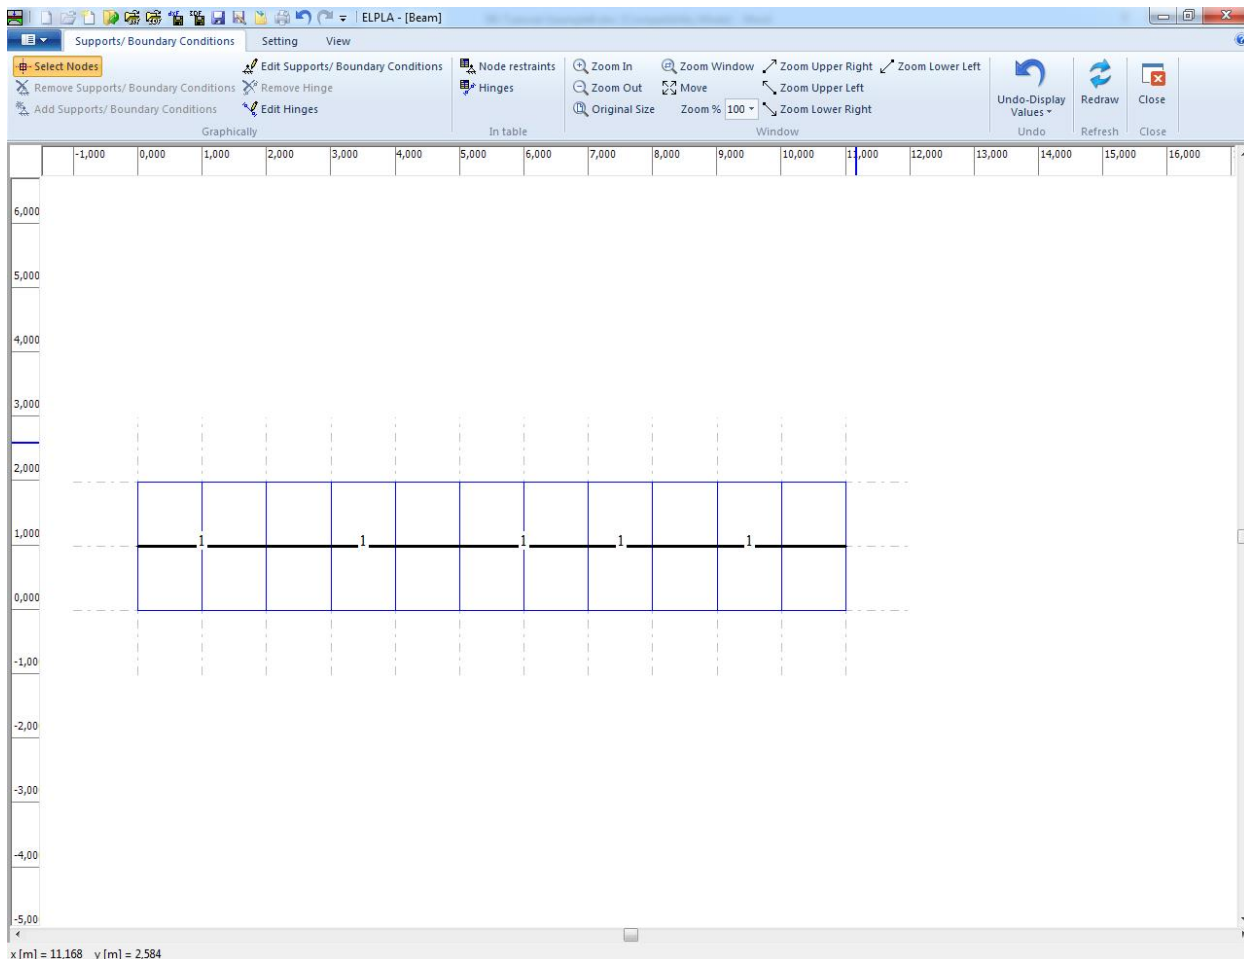
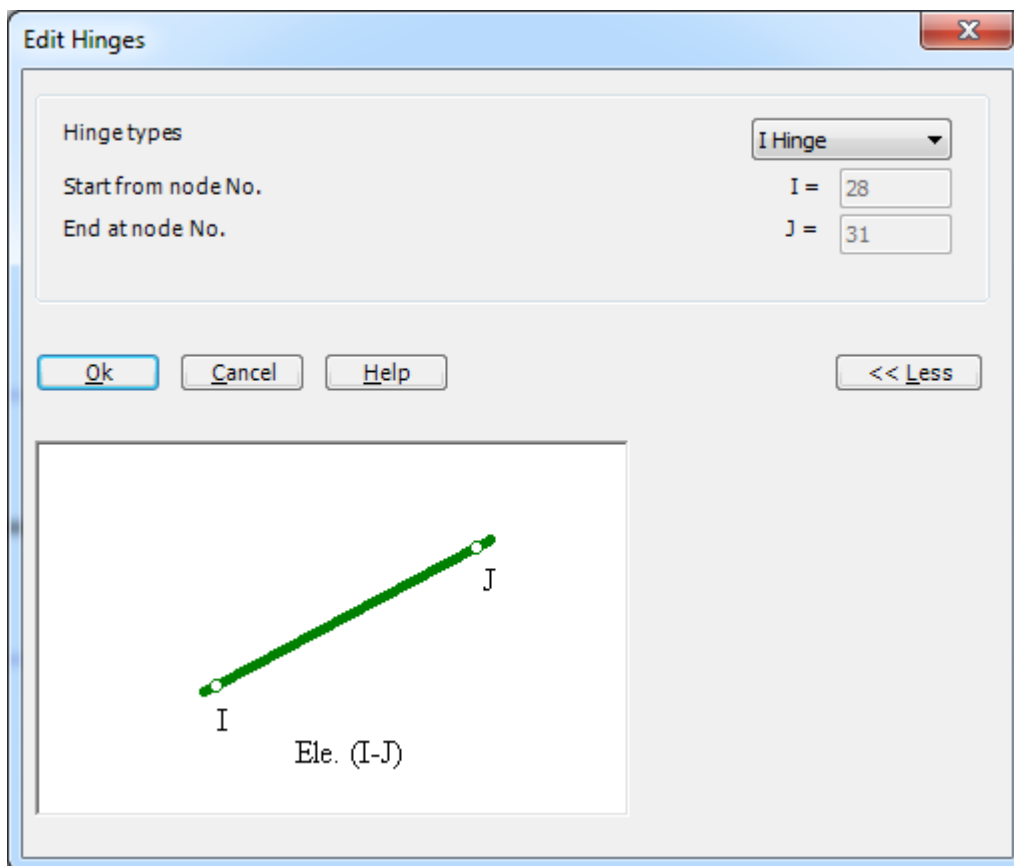

Figure 8.20 Girders are drawn as simple lines
Figure 8.24 "Edit Hinges" dialog box
After clicking "OK" in the "Plot Parameters" dialog box, the girders are drawn as simple lines as shown in Figure 8.20.
- Choose "Select Nodes" command from the "Graphically" menu in Figure 8.20. When "Select Nodes" command is chosen, the cursor will change from an arrow to a cross hair
To define the hinged node, the hinge is defined from two sides on both left and right elements that have a hinged end. Choose "Edit Hinges" command from the "Graphically" menu in Figure 8.20. When "Edit Hinges" command is chosen, the cursor will change from an arrow to a cross hair. Double click on the element that has a hinged end. "Edit Hinges" dialog box in Figure 8.24 appears.
Double click on the other element that has the hinged end. "Edit Hinges" dialog box in Figure 8.24 appears.